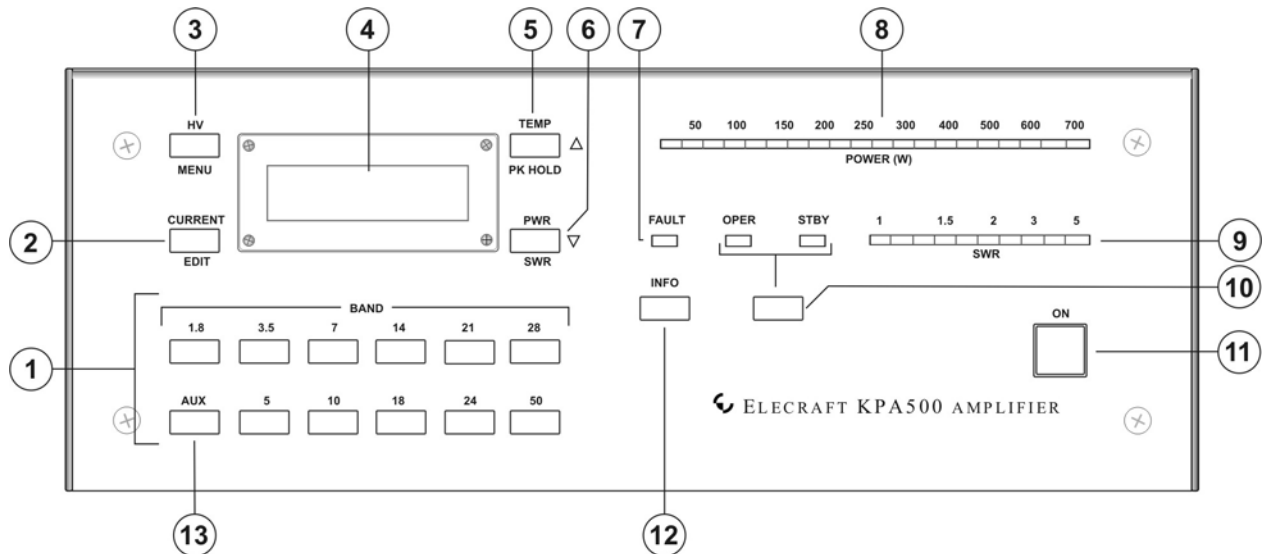

Figure 2. KPA500 Front Panel.
- Position the rear-panel power switch {3} to On (I).
- Tap the front panel **ON** switch ({11} on Figure 2). The LCD should light.
- Tap the **HV** switch ({3} on Figure 2) and note the voltage displayed on the LCD. It must be between 65 and 85 volts. If it is outside of this range, immediately tap the **ON** switch to turn the KPA500 off, wait until the fan stops completely, and then position the rear panel power switch to off (O). The fan runs to discharge the power supply to a safe level. Do not disconnect mains power or position the rear panel rocker switch to off until the fan stops.
NOTE: The red FAULT LED ({7} on Figure 2) will light when you tap the **ON** switch to protect your KPA500 if the power supply voltage is too far above the upper limit. Use a power transformer tap lower on the above table and retry the test.